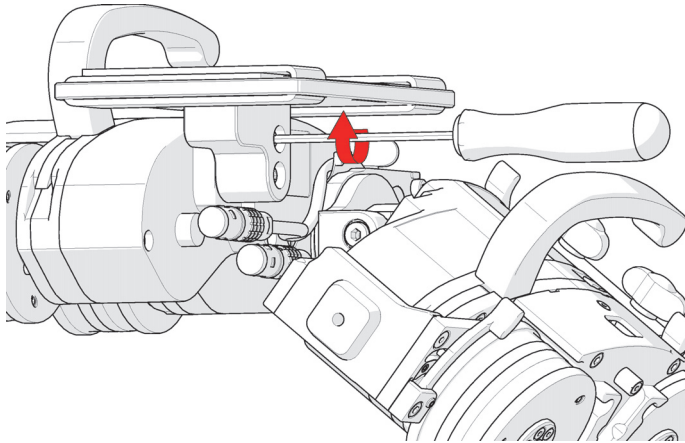

Figure 2-135 Tighten screws
2. Tighten the two backpack screws using the supplied 3 mm hex driver (see Figure 2-135 on page 150).